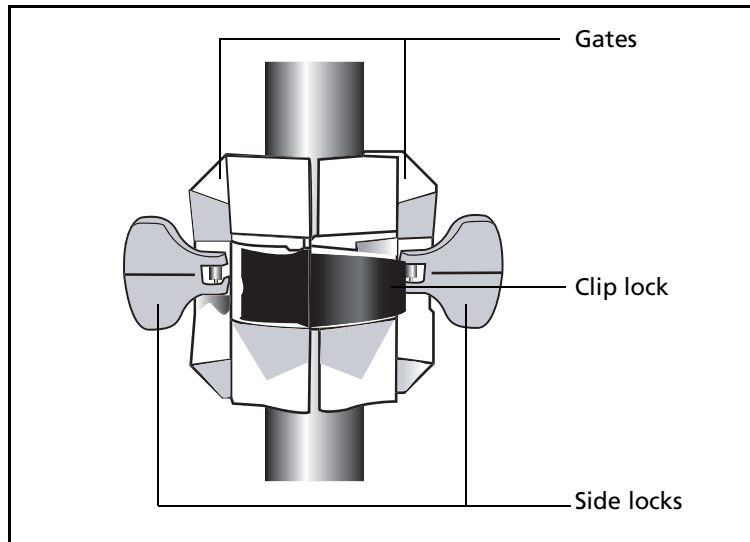

Figure 3.9 Trimble R7 receiver receiver bracket
- c. Holding the receiver in the bracket, pull the side locks back to their original positions, as shown in Figure 3.9.